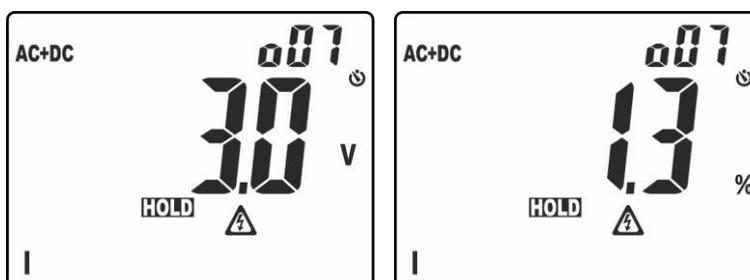

Fig. 4: Display of ordering of amplitude of harmonic analysis
- Long pressing of the key (at least 2s) in order to activate the **H $\bar{\square}$ O** (Higher Harmonic Ordering) ordering function of the amplitude of harmonics. In these conditions, function "HOLD" is automatically activated and symbol "o" appears next to the displayed harmonic order to indicate that the Ordering function is activated. The bargraph is disabled and the instrument shows the value of amplitude of all the harmonics between the DC value and the 25th, fundamental harmonic excluded, in a **decreasing order** starting from the harmonic with the highest amplitude, as shown in Fig. 4
In the example in Fig. 4, the harmonic with the highest value corresponds to the 7th. Press key **▲** to observe the amplitude of the remaining harmonics and press key **H/H%/H $\bar{\square}$** again to switch between display in absolute and percentage values. Turn the rotary switch to exit the function.